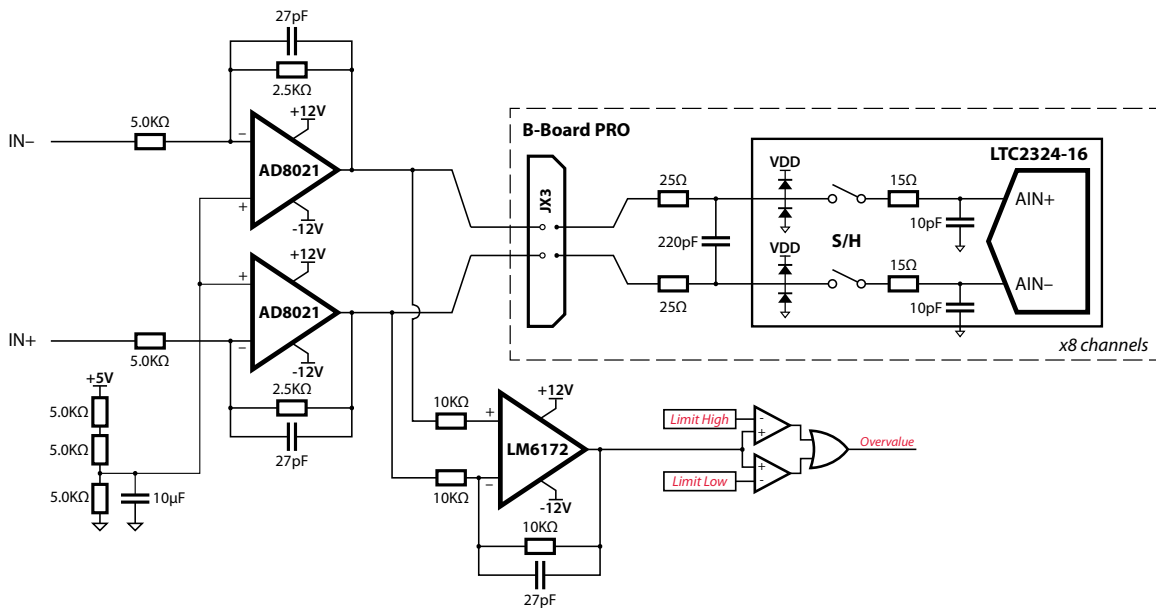

Fig. 6. Recommended carrier schematic for the ADC signals with separate  $\pm 12V$  power supplies.
- » AD8021 for a high-performance solution with power supplies up to ±12V. A recommended schematic with an output for protection thresholds is given in Fig. 6. The input common-mode range is 0.1–3.9V.